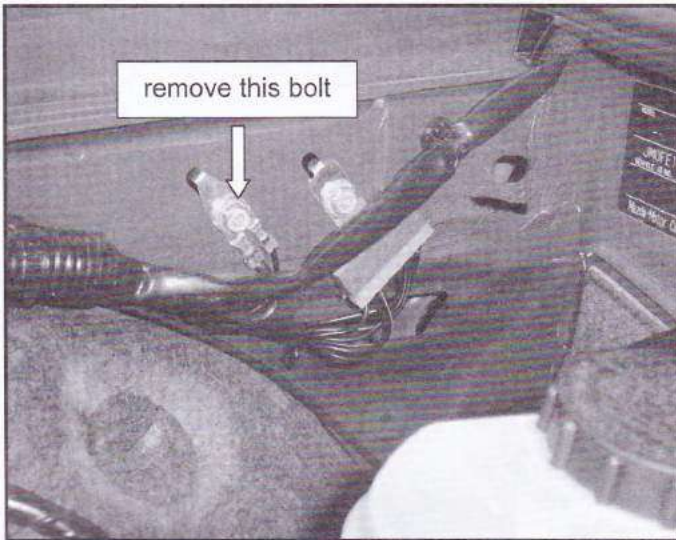

figure 11
1. Remove the M6 earth bolt located near to the RHS strut tower (refer to figure 11).